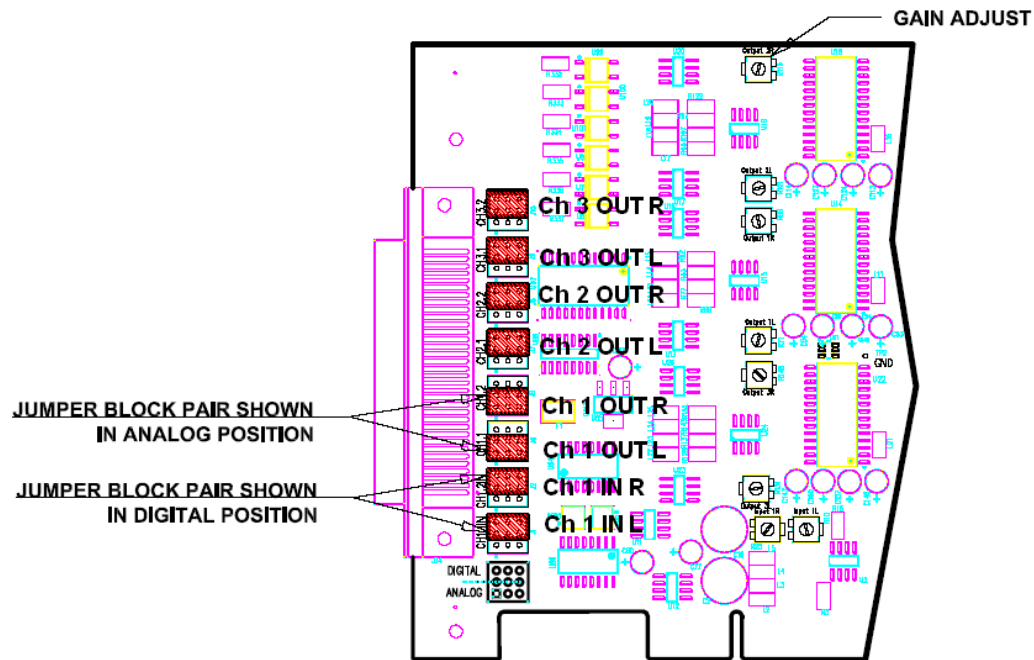

Figure 47: Jumper location on audio card for selection of analog or digital audio.
Figure 47 indicates jumper positions to select between analog or digital audio. Note that each output may be individually selected. As described earlier, when analog audio is selected, only two *channels* are available, while selection of AES/EBU digital audio provides two *stereo pairs*, one on each XLR connector. Both jumpers for each channel (Left & Right, or Main & Aux) must be set together, either analog or digital. The MAXX 6T must be power cycled for jumper changes to take effect.
4. Configure the jumpers according to Figure 47